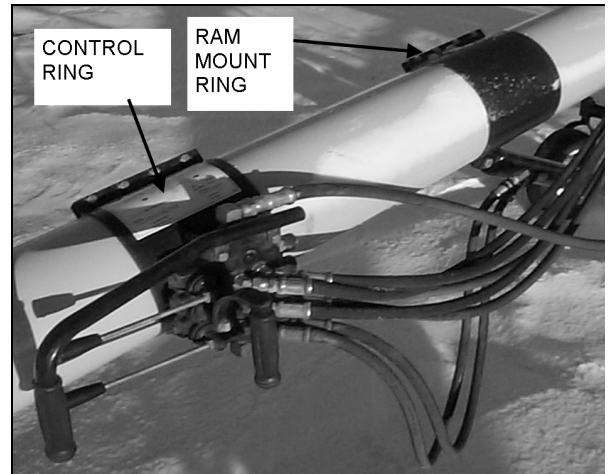

**Figure 3.12 Over-Center Assembly Adjustment**
6. Install the crossbrace clamp band onto the transport pipes and attach crossbraces onto the clamp bands using two 3/8" x 2" bolts, washers and locknuts. See Figure 3.12.